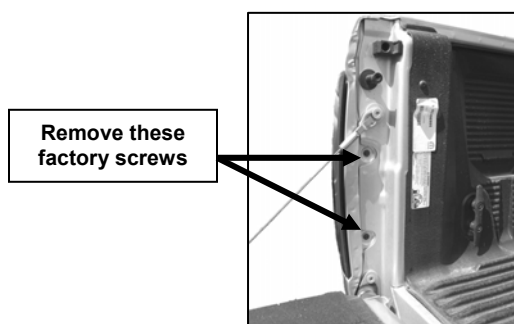

Figure 1
3. Open the tailgate and remove the driver's side screws holding the taillight housing (**Figure 1**).